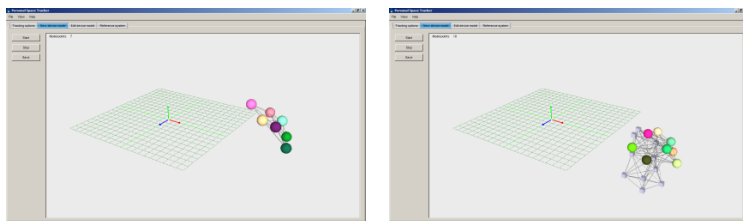

Figure 7.9: Training in progress
2. Select the PST unit to use for training and press the “Start” button in the training window. The training live view is updated and displays the 3D points corresponding to the visible markers. An example training session is shown in Figure 7.9. The colors encode the different markers in the target model. Grey cubes indicate that a previously visible marker is occluded and its position is being predicted by the PST. The training live view can be manipulated in the same way as the tracking live view (see Section 7.3.4).